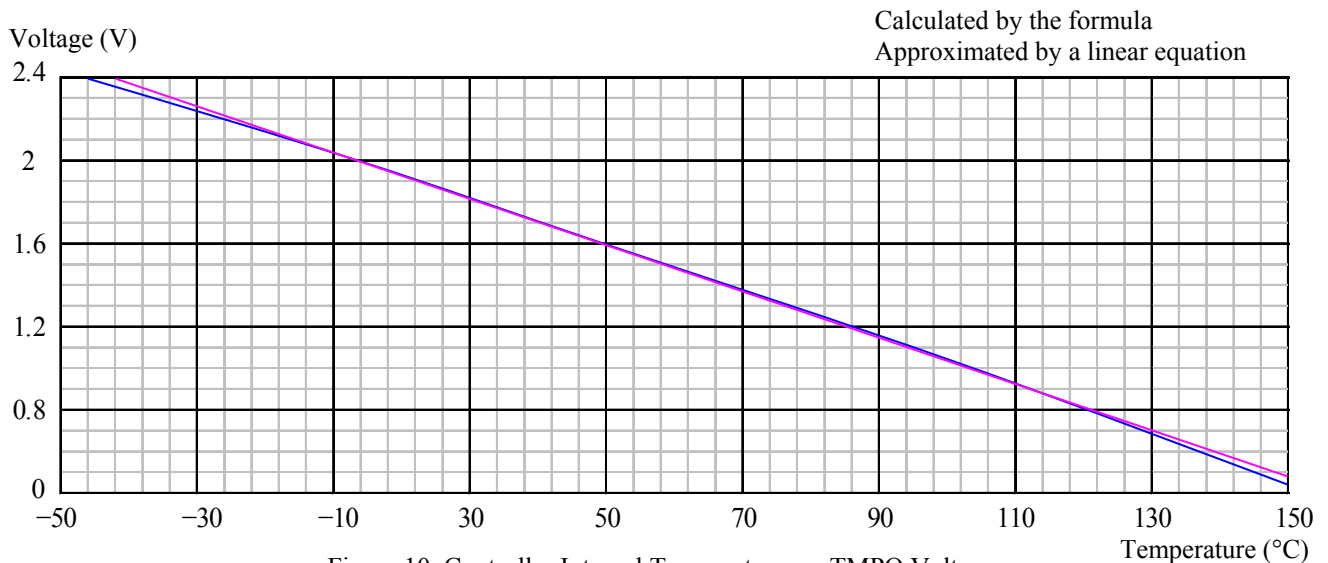

Figure 10. Controller Internal Temperature vs. TMPO Voltage
Within the most commonly used temperature range of between $0^{\circ}C$ to $100^{\circ}C$, the maximum error occurs at about $1.5V$, at which the temperature error between the calculated data by using the formula (1) and the approximated data obtained by using the linear equation (2) is about $0.4^{\circ}C$, with the linear data being a little lower. The curves of the 2 sets of the data are plotted in Figure 10.